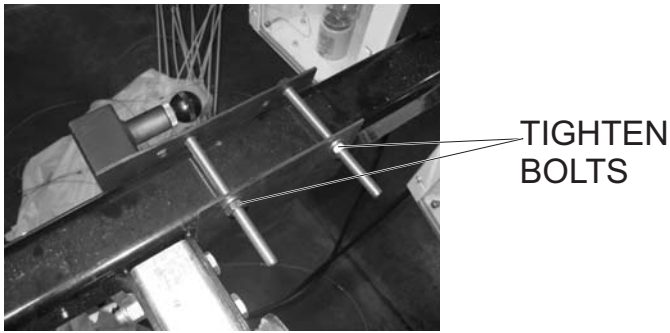

Figure 4. Securing the Clamp
3. Push in the bolts that were removed in step 1 and tighten from the inside. Use a 5/8" wrench and tighten bolts. See Figure 4.